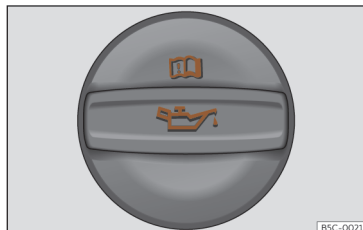

Fig. 218 Oil filler cap cover in the engine compartment.
- Locate the engine oil filler cap. It can be recognized by the symbol  on the cover >>> **Fig. 218**.
- Unscrew cap from the oil filler mouth >>> **Fig. 218**.